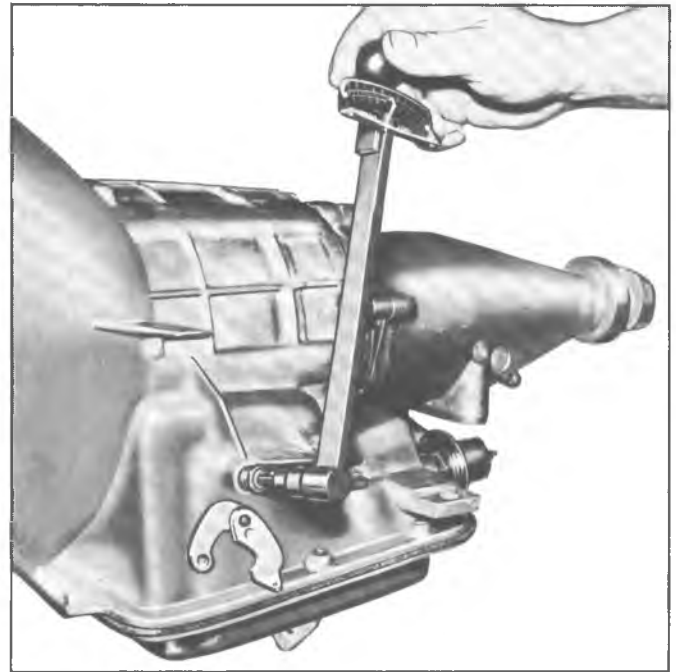

Fig. 35PG--Low Band Adjustment
3. While holding locknut, tighten low band adjusting screw to 70 inch lbs. using wrench, J-5853 and a 7/32" hex head driver (fig. 35PG) or J-21848. The input and output shaft must be rotated simultaneously to properly center the low band on the clutch drum.
4. Then back off four (4) complete turns for a band which has been in use for 6,000 miles or more, or 3 turns for one in use less than 6,000 miles.